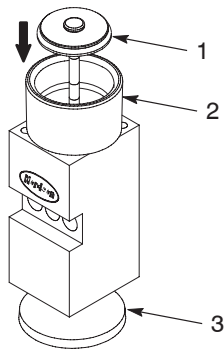

Figure 9-18 Pushing the needle-and-piston assembly through the piston insertion tool into the module body
9. See Figure 9-18. Place the module body back on the base tool (3), position the piston insertion tool (2) on top of the module, and stabilize the module on a flat surface (such as a block or table).
10. Push the needle-and-piston assembly (1) through the piston insertion tool into the module body.